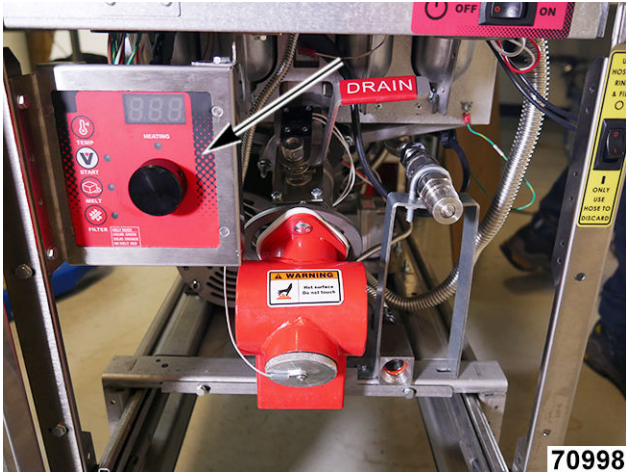

Fig. 17
2. Locate analog control board (Fig. 17).